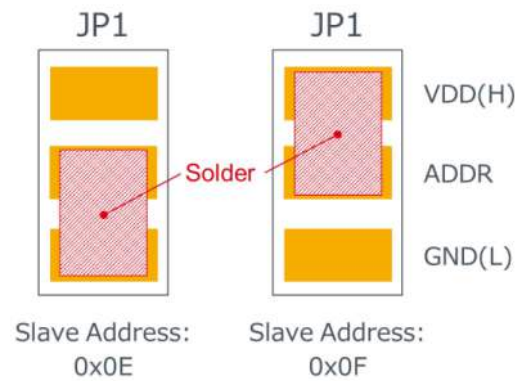

Figure 10. Changing Slave Address
2. Connect ADDR pad and GND or VDD pad by solder. (Figure 10)